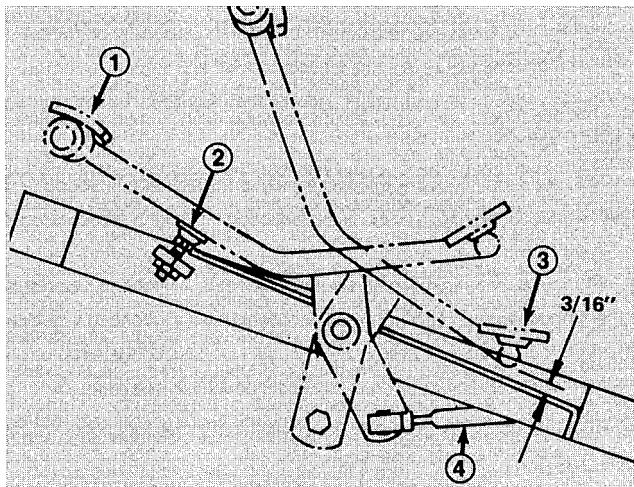

Figure 46
ADJUSTING TRACTION PEDAL (Fig. 46)
2. Check distance between bottom of pedal and footrest as shown in Fig. 46. Distance should be approximately $3/16''$. If distance is greater or less than $3/16''$ dimension, an adjustment to the traction control rod is required.
(Fig. 46)